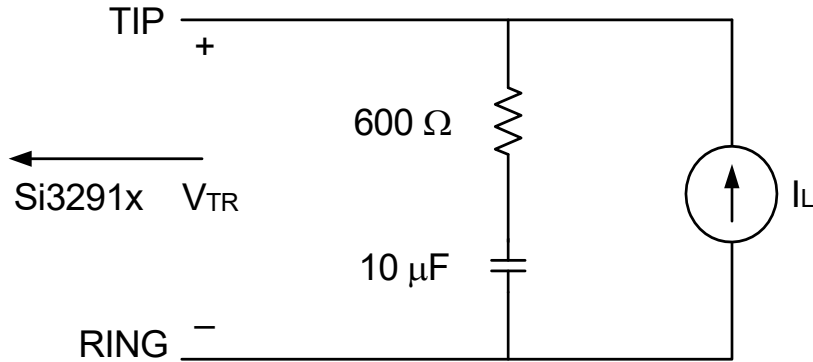

Figure 1. Test Circuit for Loop Characteristics
- Measured at TIP and RING with 600 Ω termination at 1 kHz, as shown in Figure 1 on page 12.
1. Measured at TIP and RING with 600Ω termination at 1 kHz, as shown in Figure 1 on page 12.
For Figures 1–5, all filter plots apply to a sample rate of $F_s = 8$ kHz.